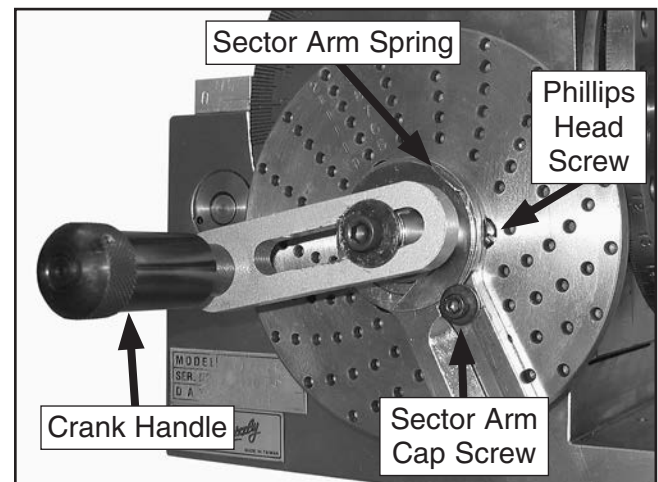

Figure 13. Dividing plate components.
1. Remove the cap screw and flat washer that secure the hand crank, then remove the crank (see **Figure 13**).